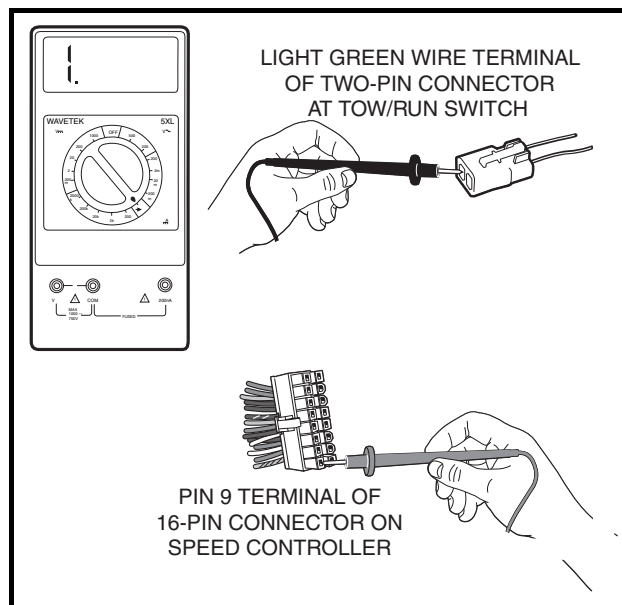

Figure 11-19 Diode Test
4. With the multimeter set to the diode test function ( $\rightarrow$ ), connect the black (–) probe of the multimeter to the light green wire terminal of the two-pin connector at the Tow/Run switch and the red (+) probe of the multimeter to the pin 9 terminal (Figure 11-19, Page 11-32). **See following CAUTION.** The reading should indicate an overload (no continuity). A diode is designed to conduct current in one direction only. If a diode conducts current (shows continuity) with the meter probes as described, the diode has failed and must be removed from the wire harness. **See Pin 9 Diode Removal, Section 13, Page 13-16.**